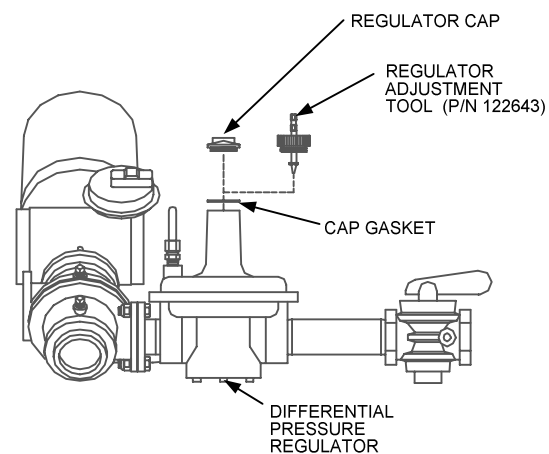

Figure 4.3
1. Remove the cap from the differential pressure regulator (see Fig. 4.3).